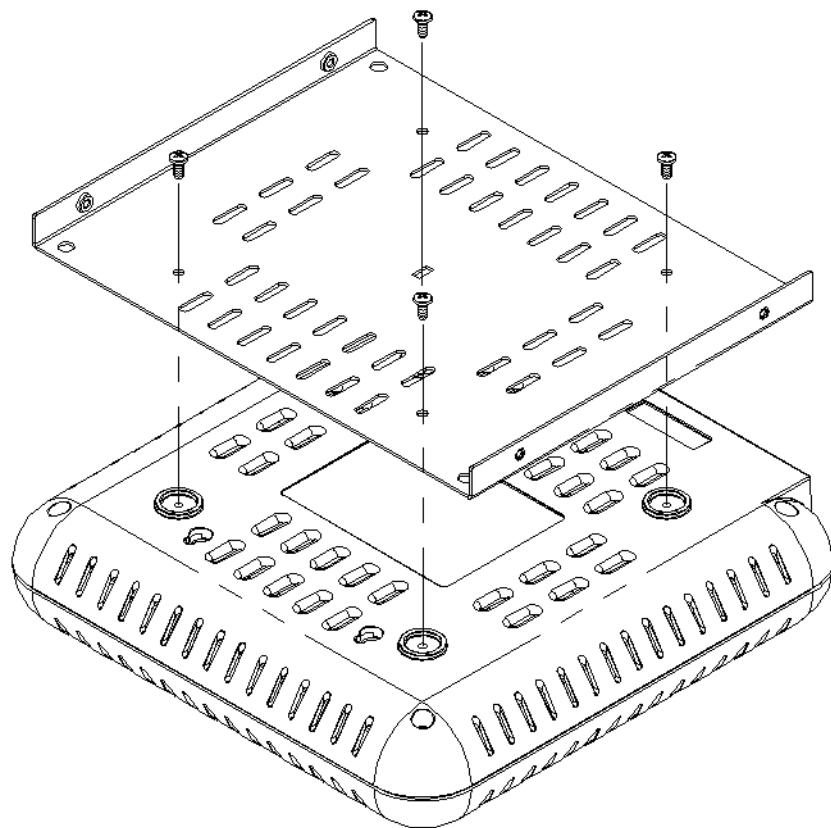

Figure 15: Attaching Rear Plate to Side Brackets
4. Attach BSAP-1800, with rear plate installed, to the side plates as shown in Figure 15. Secure the assembly using #6x1/4" screws with tooth washers.